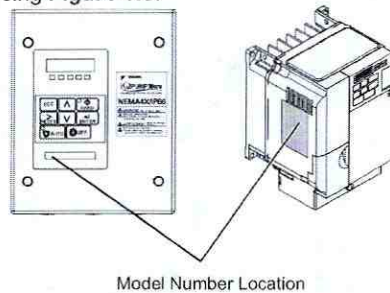

Figure 1.3 Model Number Location
5.3 Locate the drive model number using *Figure 1.3*.